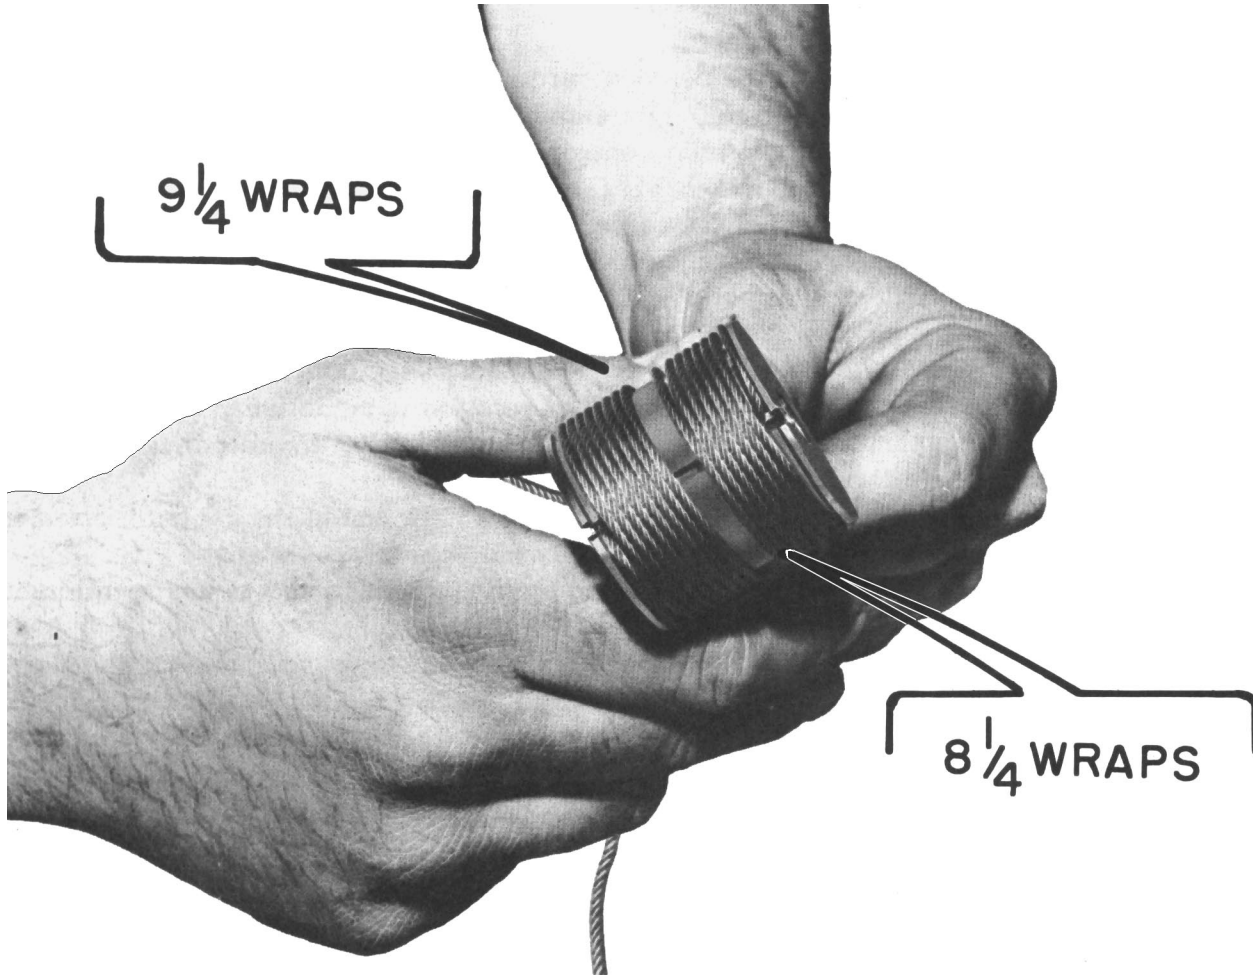

Figure 5-12. Wrapped Rudder Trim Drum Cable
After wrapping the cable around the drum, hold both ends tightly to prevent the cable from unwrapping. (Refer to Figure 5-12.)
j. Slip the rudder trim tab screw bracket assembly (20) around the drum. Insert the trim tab screw through the bracket and thread it into the drum. Install the forward rudder trim tab screw collar (15) on the trim tab screw. Insert the cotter pin, temporarily. The wider edge of the collar should be forward. (Refer to Figure 5-12.)
l. Install the hooked end of the rudder trim tab control rod assembly (21) in the end of the trim tab screw to keep the screw from rotating. If the rod is not available, use a headed rod inserted in the lower rudder lower hinge bracket.